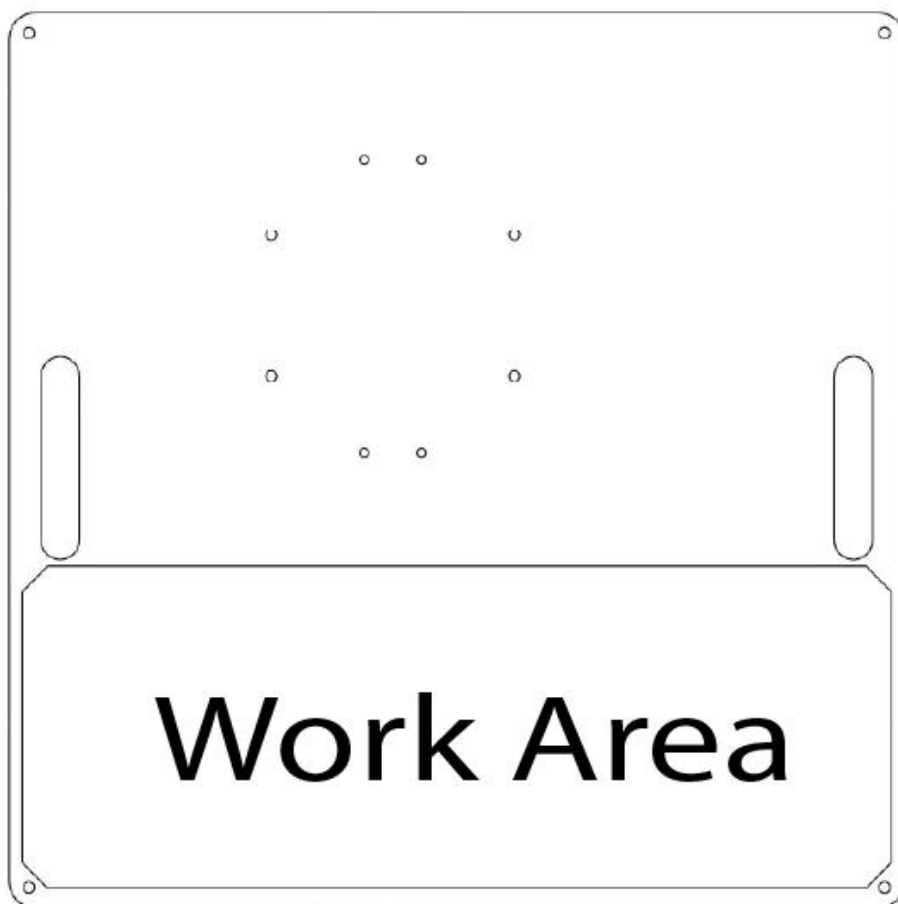

Figure 1: Base Plate orientation
2. Unpack the base plate (optional) from its separate box and put it in your selected spot with the mounting holes oriented away from you (**figure 1**). If you wish to secure the stand directly to the floor, you need to drill holes and install anchors according to the schematic at the end of this manual.
12. **Optional:** The included white sticker (also seen on Figure 1) can be applied to the Base Plate to help with disc brake alignment by providing a white background.